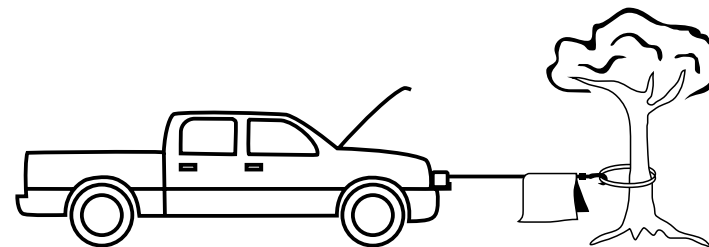

Fig. 3
10. It is important that lay a blanket or jacket over the wire rope near the hook end when puling a loads (See fig. 3). This will slow the snap back of a broken wire rope and help to prevent serious injure and damage.